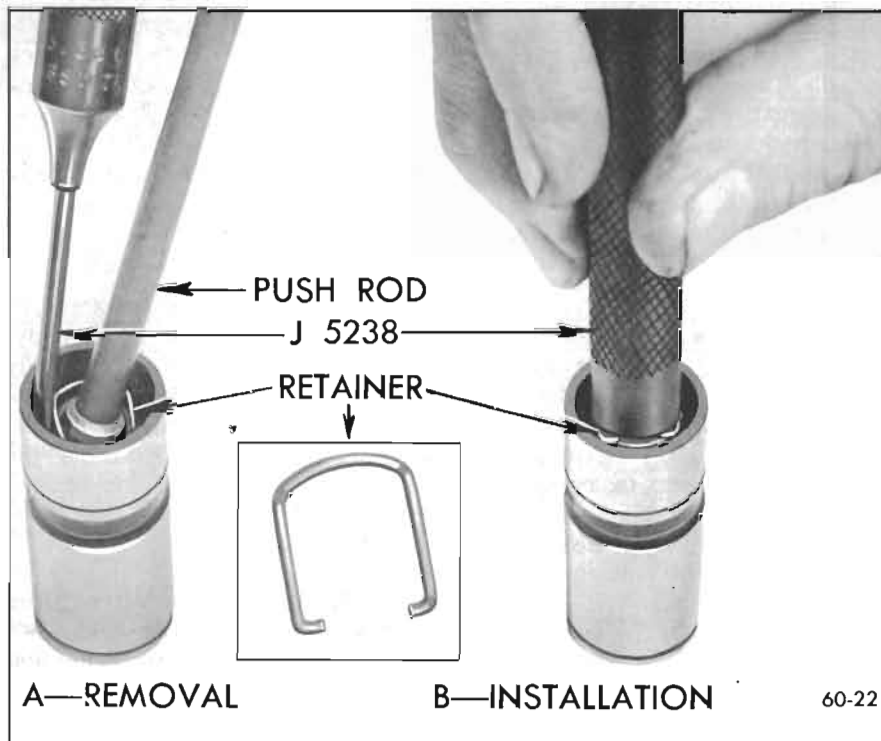

Figure 60-22—Plunger Retainer
5. Disassemble each valve lifter by using a push rod to hold down the push rod seat while removing the plunger retainer from the lifter body using Retainer Remover J-5238. See Figure 60-22, View A. Remove push rod seat and plunger from lifter body.
17. Rinse push rod seat and plunger retainer, place these parts in end of body and depress with handle of Remover J-5238 until retainer engages groove in body. See Figure 60-22.